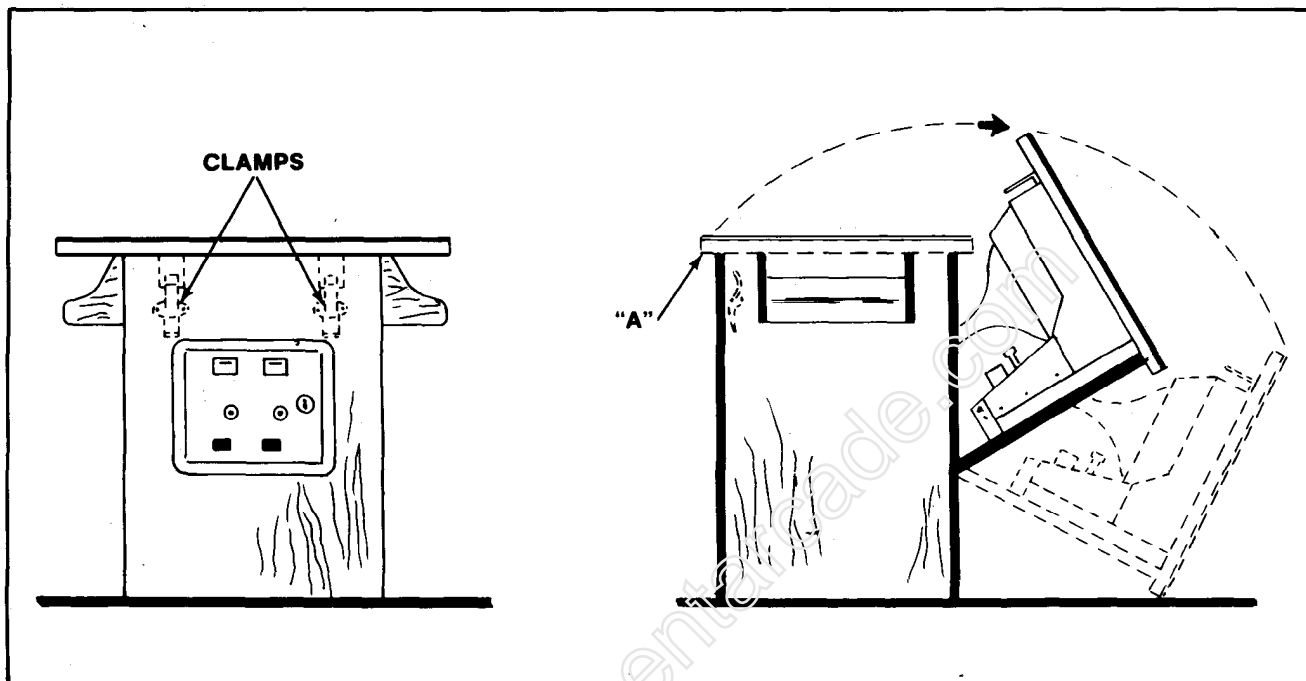

Figure 2-44 Opening the Cocktail Game
- ☐ Open the coin box door and release the two latches indicated in Figure 2-44.
- ☐ Grasp the table top at "A" and open it as indicated in Figure 2-44.